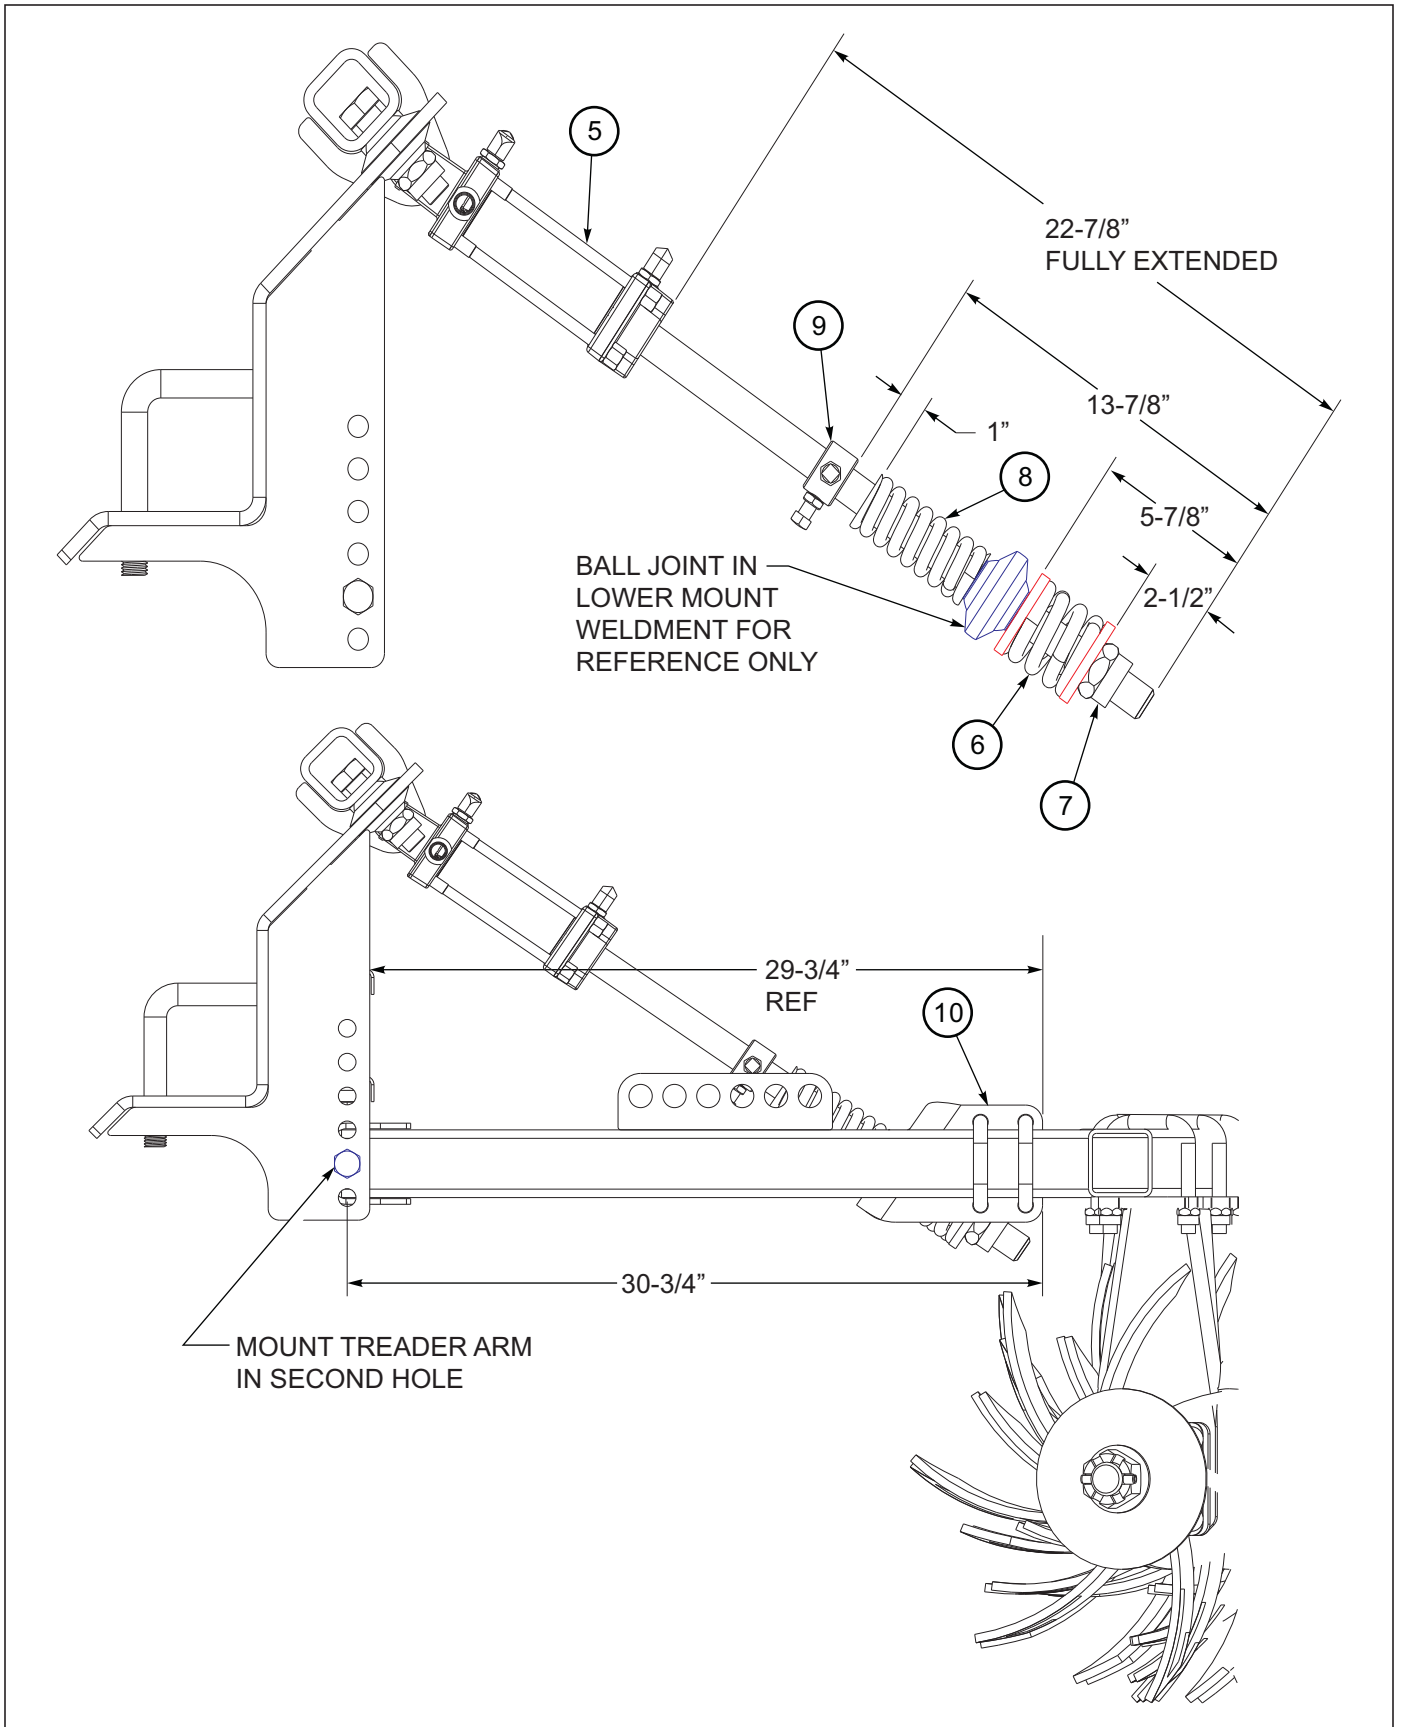

Figure 4-19: Treader Arm Cylinder Spring Adjustment
1. Refer to Treader Arm Cylinder Spring Adjustment **See Figure 4-19.** for initial spring adjustment.
2. Set the treader arm weldments in the 2nd hole from the bottom of the treader arm mount. With the hydraulic cylinder (5) fully extended, set the rear most edge of the cylinder mount (10) to the 30-3/4" distance **See Figure 4-19.**
3. Set the 5-7/8" distance for the lower spring (6) by adjusting the 1-1/4"-7 lock nut (7). After the lower spring (6) is located correctly, set the 1" distance between the upper spring (8) and the 1-1/4" locking collar (9).
4. For different field conditions or different working depths the treader may be raised or lowered. Start by adjusting the lower cylinder mount (10) by loosening the 5/8" lock nuts on the 5/8" u-bolts. Slide the lower cylinder mount (6) forward or rearward to achieve desired location. Tighten 5/8" lock nuts on the 5/8" u-bolts.
5. If more adjustment is needed the 3/4"-10x5-1/2" hex bolts (4) may be removed and either move treader arm weldments up to a different hole to raise wheels or a lower hole to lower wheels. Re-install the 3/4"-10x5-1/2" hex bolts, 3/4" lock washers and 3/4"-10 hex nuts.